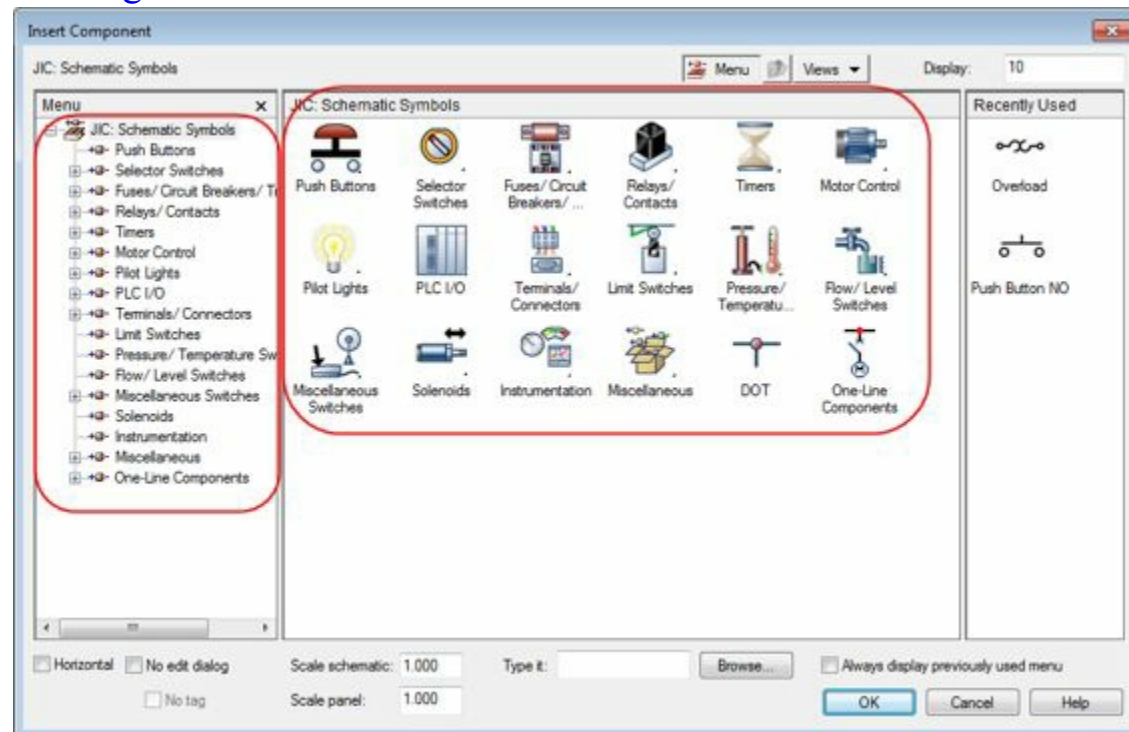

Figure-2. Insert Component window
- Click on the **Icon Menu** tool in this menu. The **Insert Component** window will be displayed; refer to Figure-2.